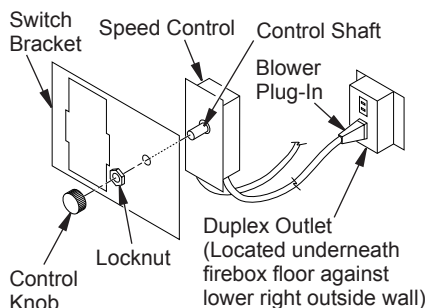
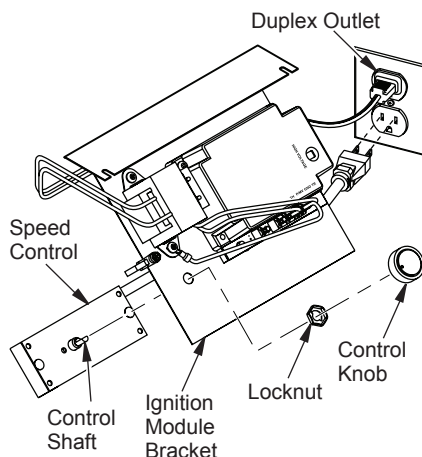

Figure 37 - Attaching Speed Control to Firebox (Millivolt Models)
Figure 38 - Attaching Speed Control to Firebox (Electronic Models)
5. Mount speed control box by placing plastic control shaft through opening in switch bracket (see Figure 37) or ignition module bracket (see Figure 38).
5. Mount speed control box by placing plastic control shaft through opening in switch bracket (see Figure 37, page 23) or ignition module bracket (see Figure 38, page 23).
6. While supporting speed control, secure control shaft with lock nut by pushing and turning lock nut with pliers clockwise until it is tight against mounting plate. Place control knob provided on shaft (see Figure 37 or 38, page 23).